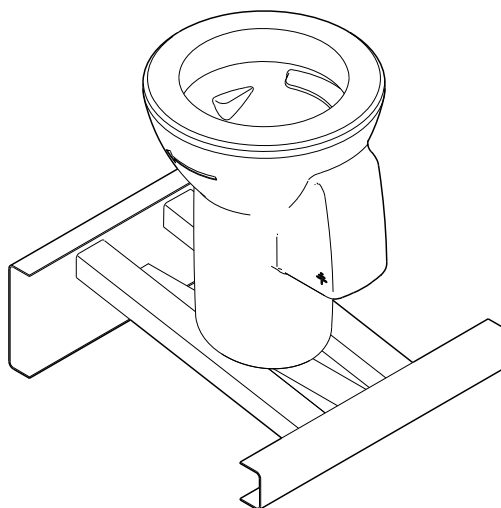

Fig. 6 Stator housing on a holding tool
1. Remove the lifting bracket (190) by unscrewing its two screws (118a).
2. Fit an eyebolt (O) in the shaft, and lift the stator housing into vertical position by means of a crane. Place the stator housing upside down on a holding tool. See fig. 6. The holding tool cannot be ordered from Grundfos. Figure 1 shows an example of a suitable holding tool.
3. Remove the O-ring (37a) from the stator housing (55).
Place the stator housing upside down on a holding tool. See fig. 6. The holding tool cannot be ordered from Grundfos. Figure 1 shows an example of a suitable holding tool.